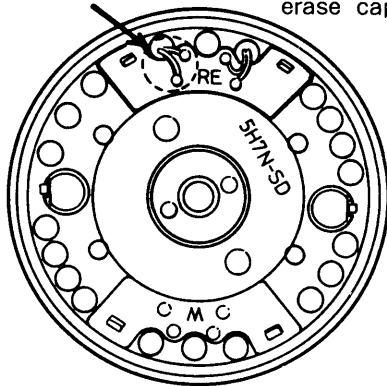

Fig. 5-11-4
- 2) In case the RE (ROTARY ERASE) HEAD is attached to the upper drum (UPPER CYLINDER), remove the lead wires soldered from the P.C. board (see Fig. 5-11-4.).
- 2) The code name ① of the drum is printed on the video head side of the upper drum ⑤ SP CH-1 (channel A, plus azimuth). The code name ① is set with in the rotary transformer terminal round hole side ② position of lower drum (LOWER CYLINDER), so that the two screw holes ③ of the upper drum are aligned with the two screw holes ④ of the flywheel. (Refer to 3. Recognizing the SP CH-1 Head side).
- 3) In case the RE (ROTARY ERASE) HEAD is attached to the upper drum, pass the lead wires through the lead wire hole. (See Fig.5-11-4.)
- 4) While keeping the upper drum ⑤ parallel to the lower drum (LOWER CYLINDER) ⑧, insert it completely into the flywheel.
- 5) Temporarily tighten the two screws ⑦ alternately a little at a time, then tighten them to a torque of 6kg-cm using a torque driver (VHJ-0014) and a 3mm bit (VHJ-0045).